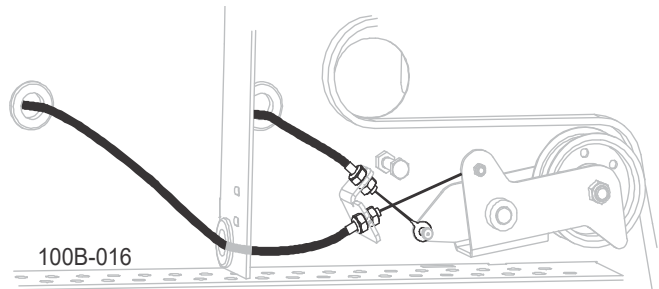

FIG. 1-28
**NOTE:** The clutch cable can also be adjusted at the clutch or at the engine. See FIG. 1-28.